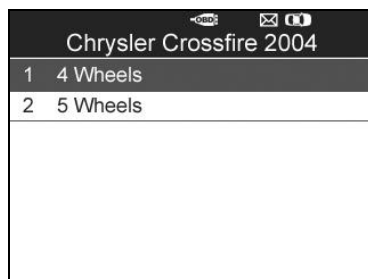

Figure 3.5
- 5) For some vehicle types an option screen will show up to let users choose between 4 Wheels test and 5 Wheels test mode.(Figure 3.5)